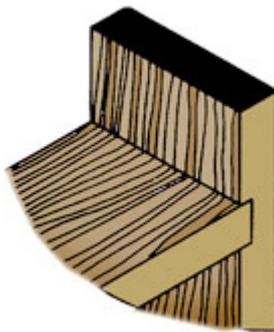

FIG. 16 - Make a dado joint by cutting a slot into one piece of wood to match the end of the other.
- To make a dado joint, cut a slot into one piece of wood to match the end of the other (Fig. 16). The dado joint is much stronger than the butt joint and creates a more professional appearance.